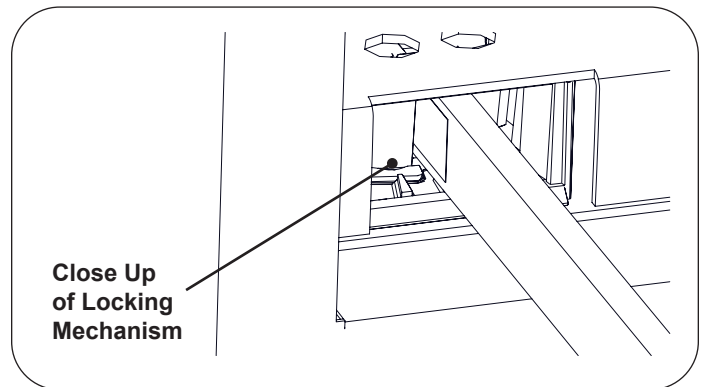

Figure 41. Stirrup Locking Mechanism
2. When the desired position is achieved, lower the stirrup to engage the lateral locking mechanism (Figure 41 and Figure 42).